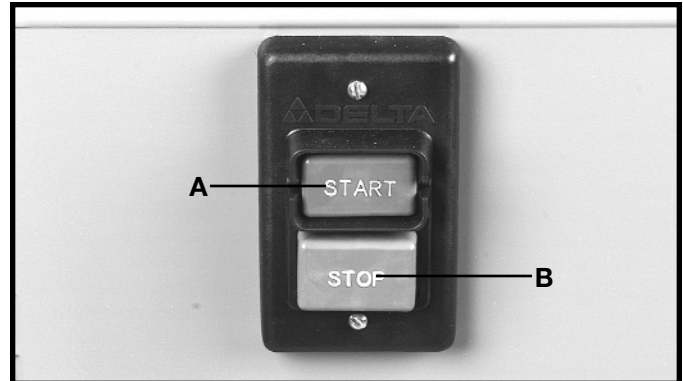

Fig. 17
To turn the machine **“ON”**, push the green start button (A) Fig. 17. To turn the machine **“OFF”**, push the red stop button (B).